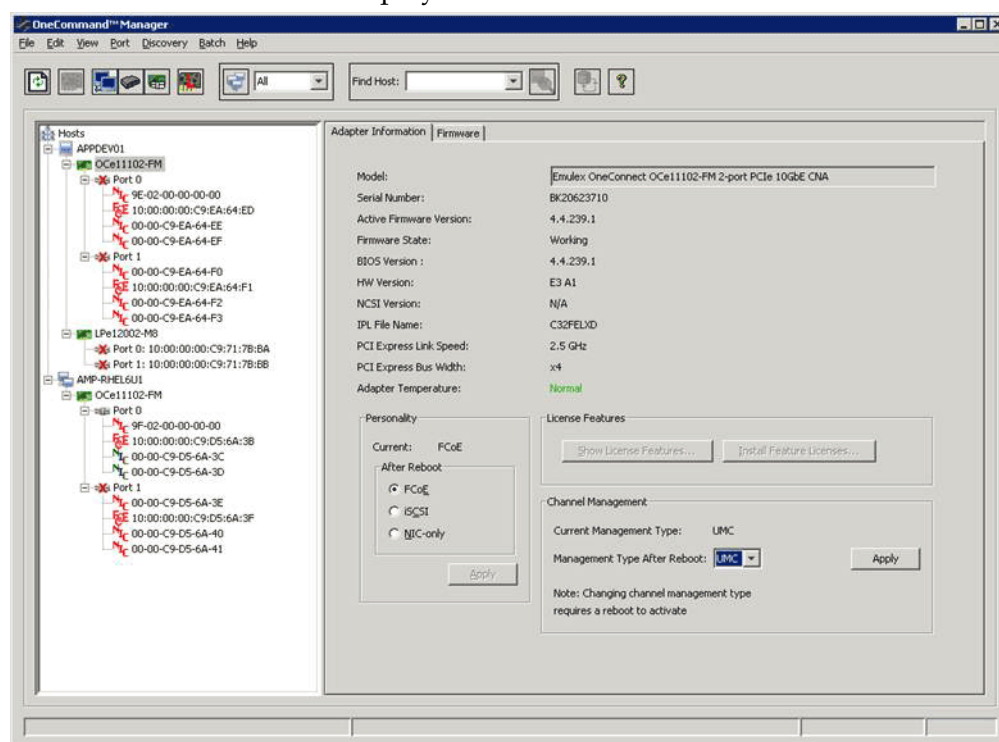

Figure 7-10 OneConnect OCe11102 Adapter Information Tab
Using the Adapter Information tab (Figure 7-10 on page 80), you can view what licenses are available and install licenses for the selected adapter.
1. From the discovery-tree, select the OCe11102 adapter whose licenses you want to view. The Adapter Information tab is displayed (Figure 7-10 on page 80).
1. From the discovery-tree (Figure 4-3 on page 40), select the OCe11102 adapter whose licenses you want to install. The Adapter Information tab is displayed (Figure 7-10 on page 80).